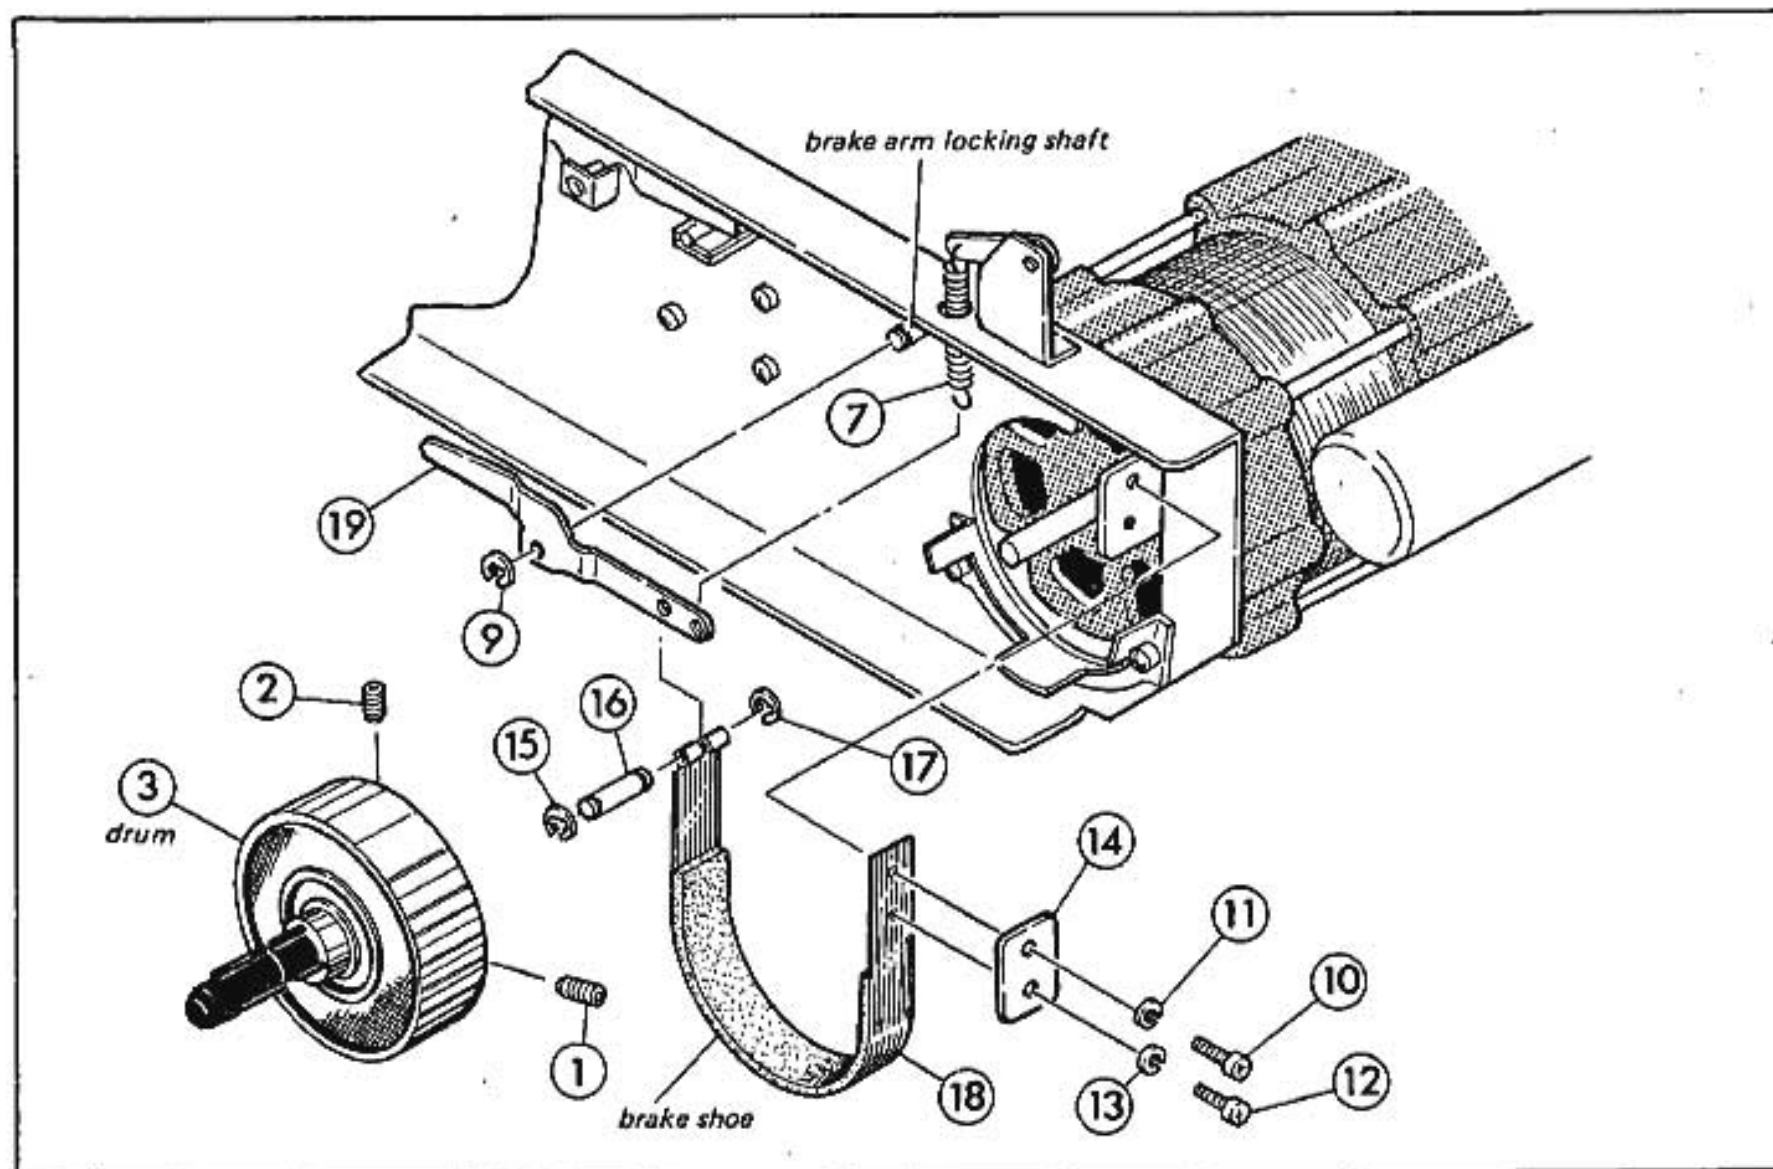

Fig. 10-1
For replacement of a worn-out brake shoe also the brake band in accordance with the following procedure, see Fig. 10-1. Do not remove the brake guide except it is damaged.
1. Disassembly (See Fig. 10-1)
2. Assembly (See Fig. 10-1)